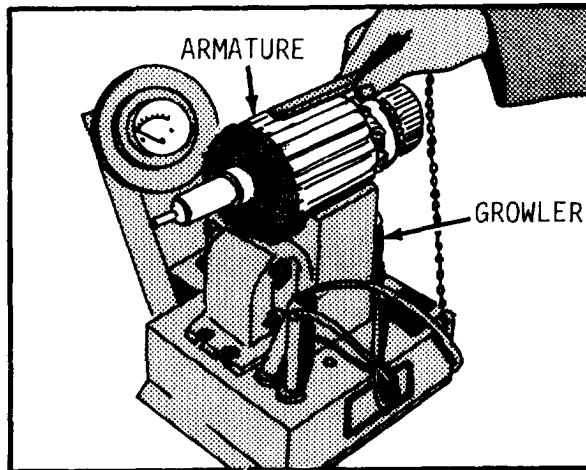

Figure 5-9. Testing armature for short circuits
(6) Place armature assembly on growler, and hold thin strip of steel, such as a hacksaw blade, approximately 1/16-inch away from armature core (fig. 5-9). Rotate armature slowly in growler. If steel strip vibrates, winding is short circuited; replace shorted armature.